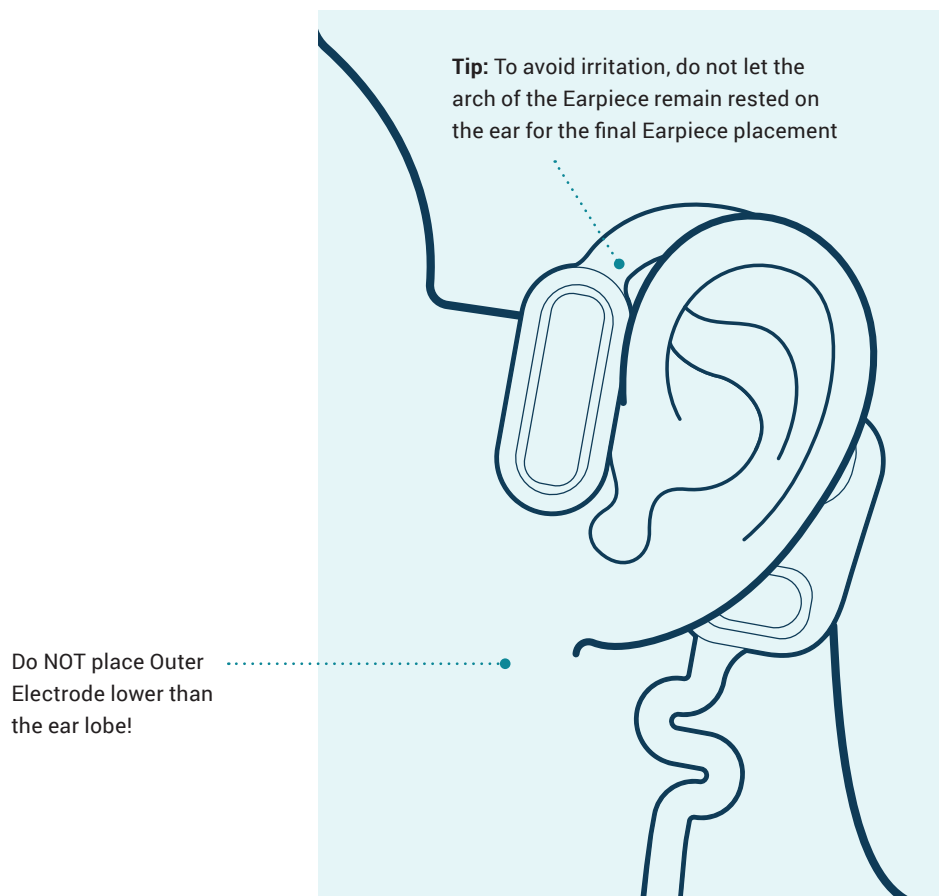

Figure 2: Earpiece placed correctly
3. Next, remove the adhesive liner covering the Outer Electrode. Press firmly to ensure the entire Outer Electrode is adhered to the skin. See **Figure 2** for correct Earpiece placement.